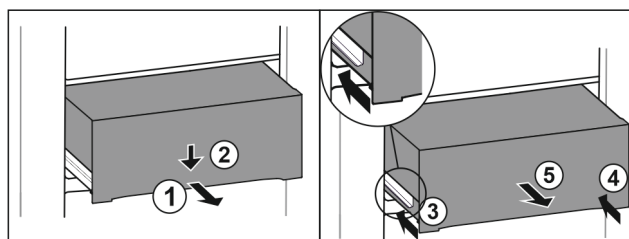

Fig. 151
- Pull out drawer half-way. Fig. 151 (1)
- Push the drawer down at the front. Fig. 151 (2)
- Push the left rail in by about 2 cm. Fig. 151 (3)
- Push the right rail in by about 2 cm. Fig. 151 (4)
- Remove drawer to the front. Fig. 151 (5)